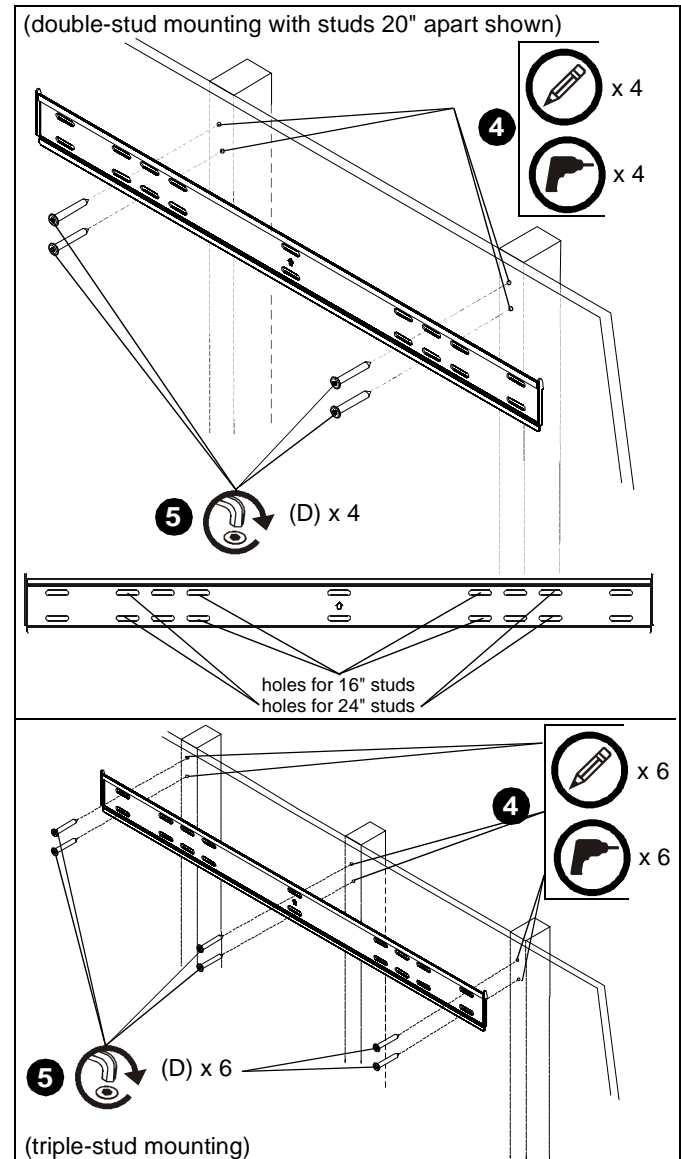

Figure 2
4. Using wall plate as template, mark and then drill four or six (for triple-stud mounting) 3/16" diameter pilot holes through mounting surface, making sure the holes are centered in the middle of each stud. Holes must be drilled at least 2-1/4" deep. (See Figure 2)
5. Install four or six connector screws (D) through wall plate and into pilot holes using M4 Allen Head bit (C). (See Figure 2)